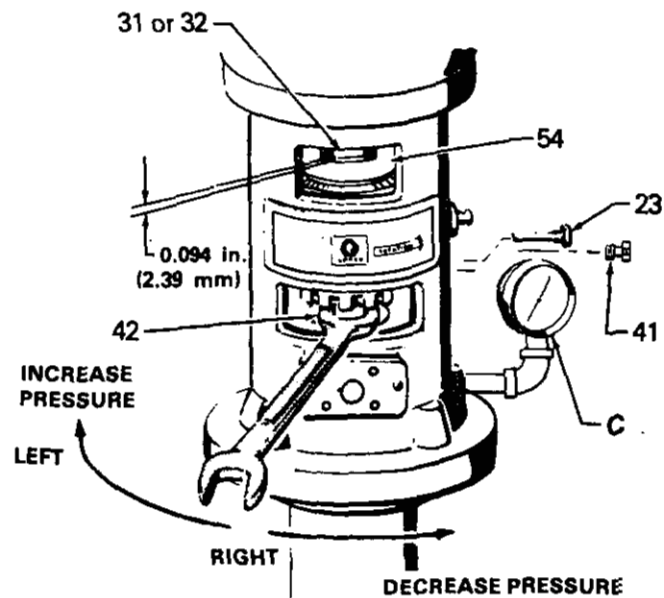

Fig 6
25. Shut the pump off and recheck the coupler clearance; Readjust if necessary to 0.094 in. (2.39mm). Refer to Fig 6.
26. Remove the seal chamber cover (25) and check to be sure the slinger is in the middle of the chamber. Loosen the setscrew with a 0.19 in. hex key wrench to readjust the slinger. Reinstall the cover, gasket and screws.